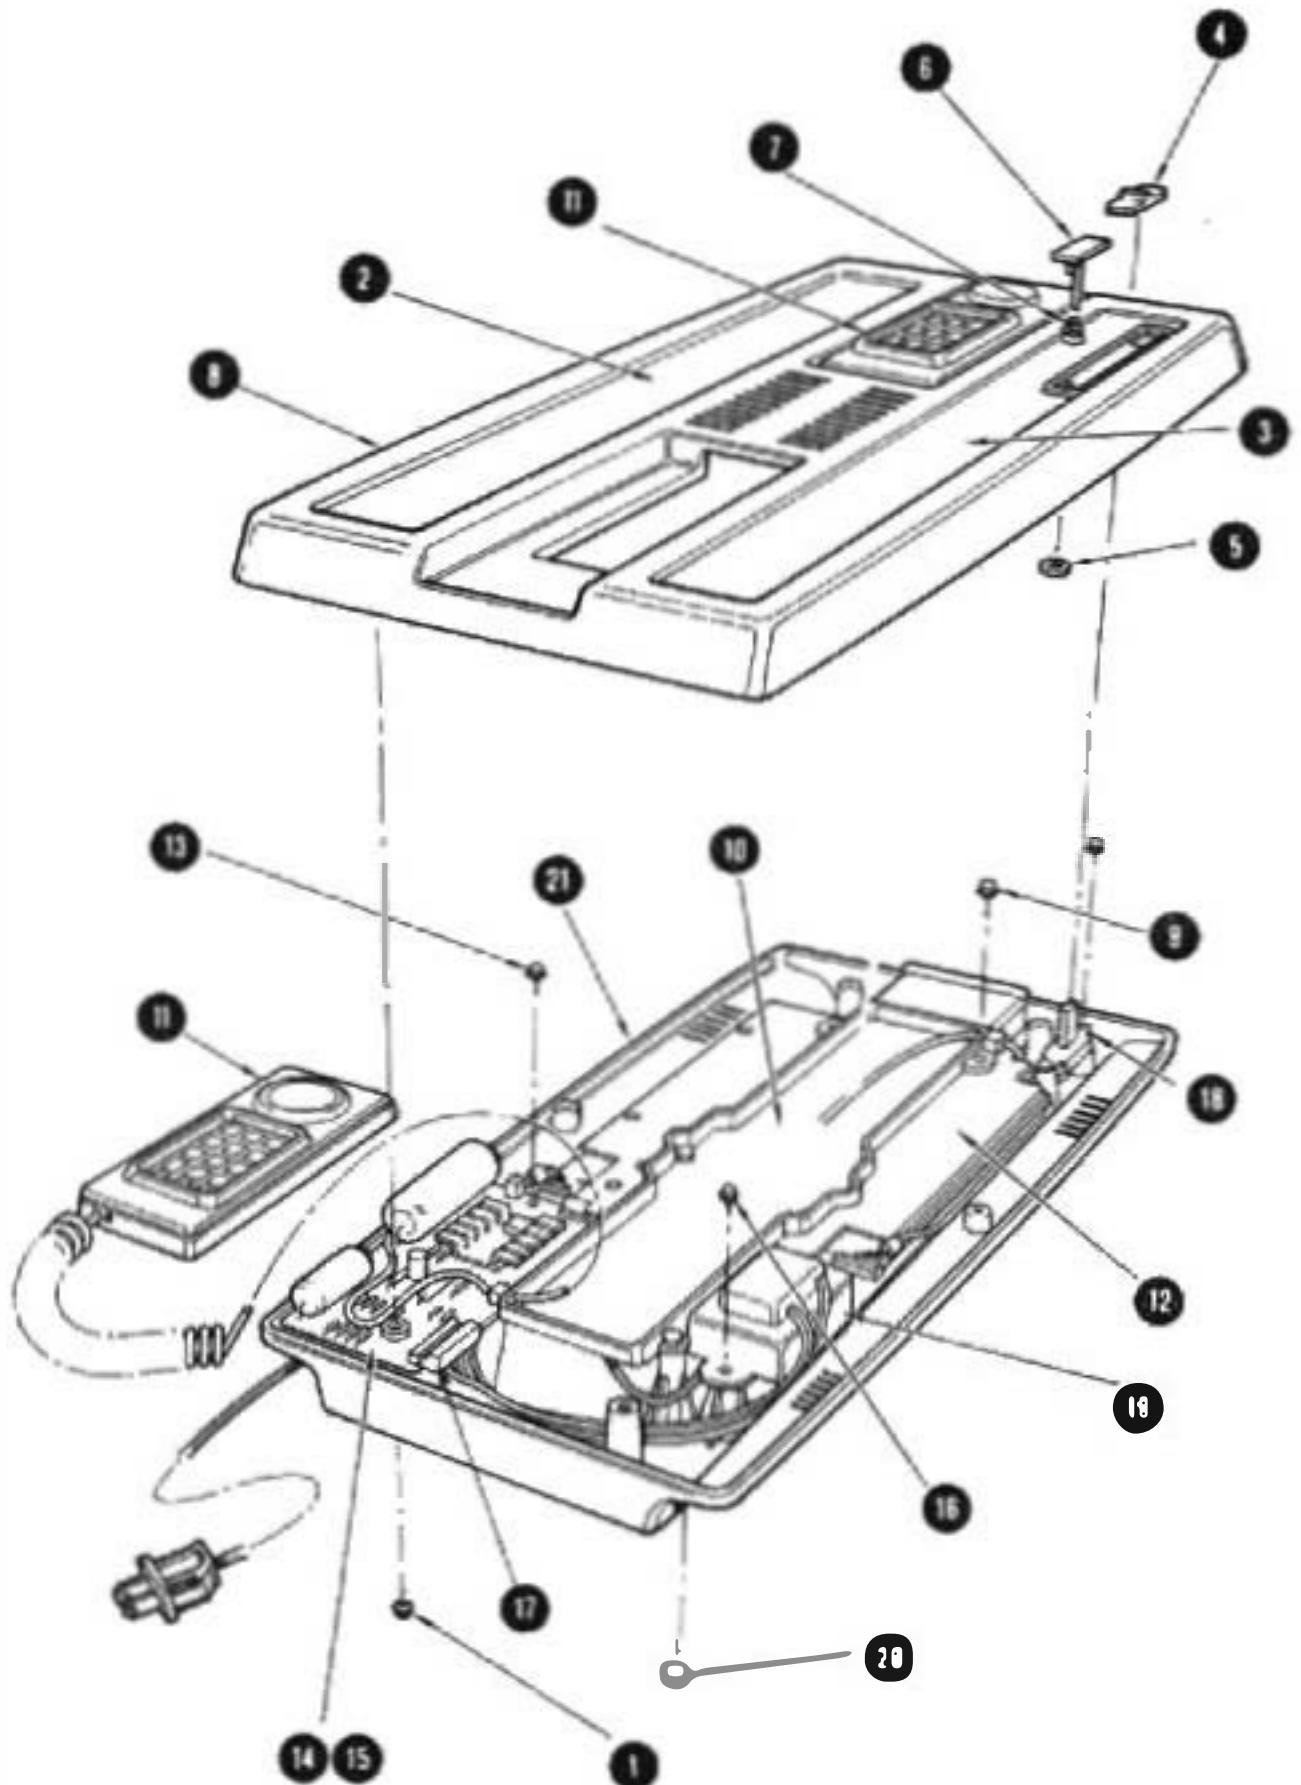

Figure 6-1 EXPLODED VIEW . . . . . Console Assembly
~~NOTE: 1. REFER TO FIGURE 6-1
f. Carefully connect the 5-pin ribbon cable (42, Figure 6-3) and 2-pin connector (58) from the PCB Logic (12, Figure 6-1) to the PCB Power Supply (14) as illustrated in Figures 5-1 and 5-2.
g. Install tray (10) in bottom housing assembly (21) and secure in place with six screws (9).
h. If removed, install spring (7), reset button (6) and fastener (5) on top housing assembly (8).
i. Slide hand controller assemblies (11) through openings in top housing assembly (8). Install top housing assembly on bottom housing assembly (21).
k. Carefully invert console assembly and secure top housing assembly (8) to bottom housing assembly (21) with six screws (1).